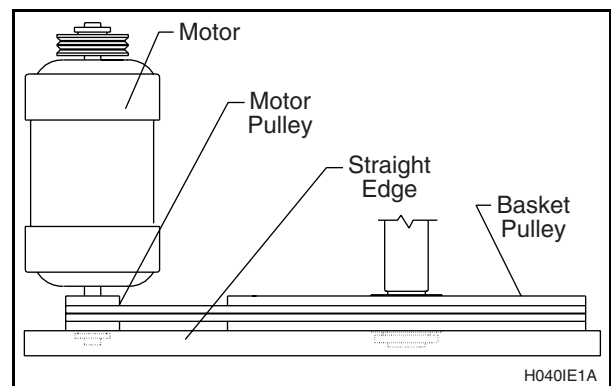

Figure 50
- b. For groove-pulley drive systems, verify alignment by placing a straightedge across both pulley faces. The straightedge should make contact with the pulleys in four places. See Figure 50.